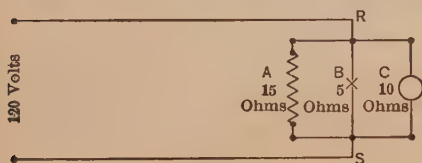

FIG. 44.
**21. Parallel Circuit. Resistance.** Suppose that it is desired to find the resistance of a parallel combination, as  $A$ ,  $B$  and  $C$ , in Fig. 44. There are many formulas for this,